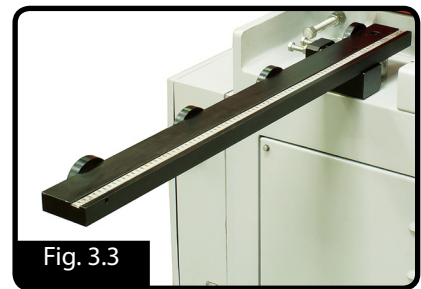

Fig. 3.3
1. Place the squaring stops Fig 3.3 into position on the table top, securing into place with the bolts supplied.